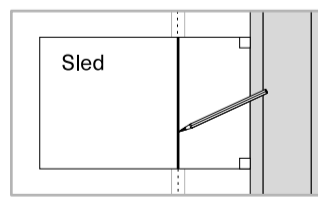

Fig 2d - Connect front & back edge marks
- 2.4 Draw a straight line connecting these two marks [Fig 2d].